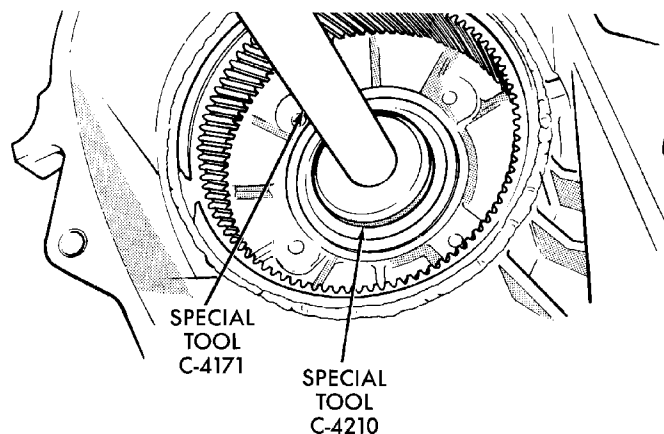

Fig. 50 Input Shaft Bearing Removal
(9) Using Remover C-4210 and Handle C-4171, drive input shaft bearing from inside the annulus gear opening in the case. (Fig. 50).
(10) Install locating ring on new bearing.
(11) Position case so forward end is facing upward.